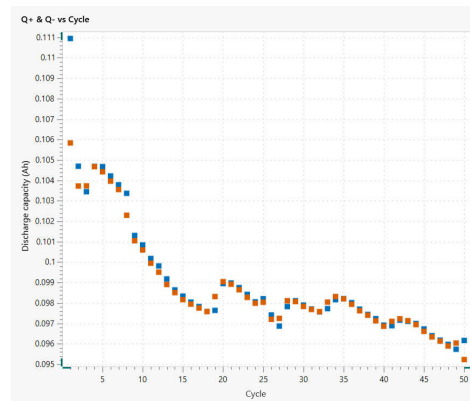

**Figure 4.** Example of an  $E$  vs  $Q$ +/ $Q$ - plot from the charging and discharging of a Li-ion coin cell battery.
**Voltage vs (Dis)charge Capacity,  $E$  vs  $Q$ +/ $Q$ -** is shown in **Figure 4**. These are also known as charge and discharge curves, and they also plot the voltage but now as a function of capacity instead of time. This alternative way of representing the same information is quite popular as it is easier to see more details about the electrochemical reaction. The plateaus in this plot indicate phase changes within the active material. The slope of the curves can provide information about the kinetics of the reaction as well information about the resistive components in the battery. Other important uses include monitoring the health of the battery. As the cycle test continues, the capacity can begin to fade leading to curve shortening, which can give insights into potential failure mechanisms. The discharge capacity curve is shrinking, indicating that the capacity is fading in this case (**Figure 4**).
**Voltage vs Capacity,  $E$  vs  $|Q|$** . In **Figure 5**, the voltage vs Capacity plot is shown, which is a different way of representing the information in **Figure 4**. Changes in this plot can also give indications regarding possible failure mechanisms. Ideally, if no degradation occurs, each cycle should start at zero while a displacement to the right (positive) indicates a loss of capacity.